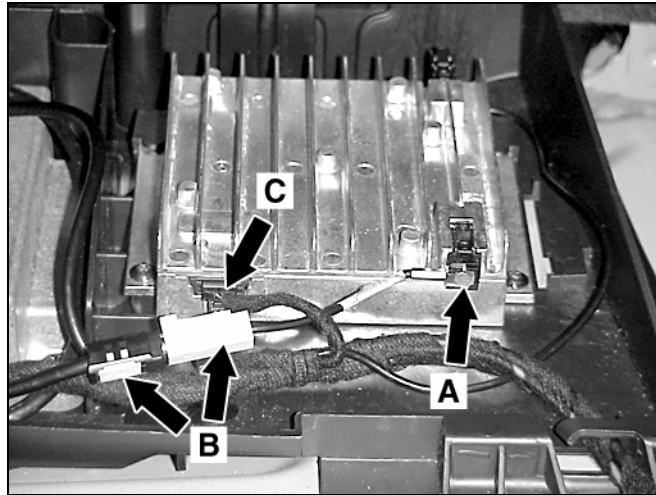

Figure 7
4. Connect the compensator adapter cable (found in the kit) male connector to the compensator jack labeled "PORTABLE" (A, Figure 7).
5. Connect the female connector of the compensator adapter cable to the harness coaxial cable male connector (B, Figure 7).
6. Connect the compensator power cable to the linear compensator (C, Figure 7).